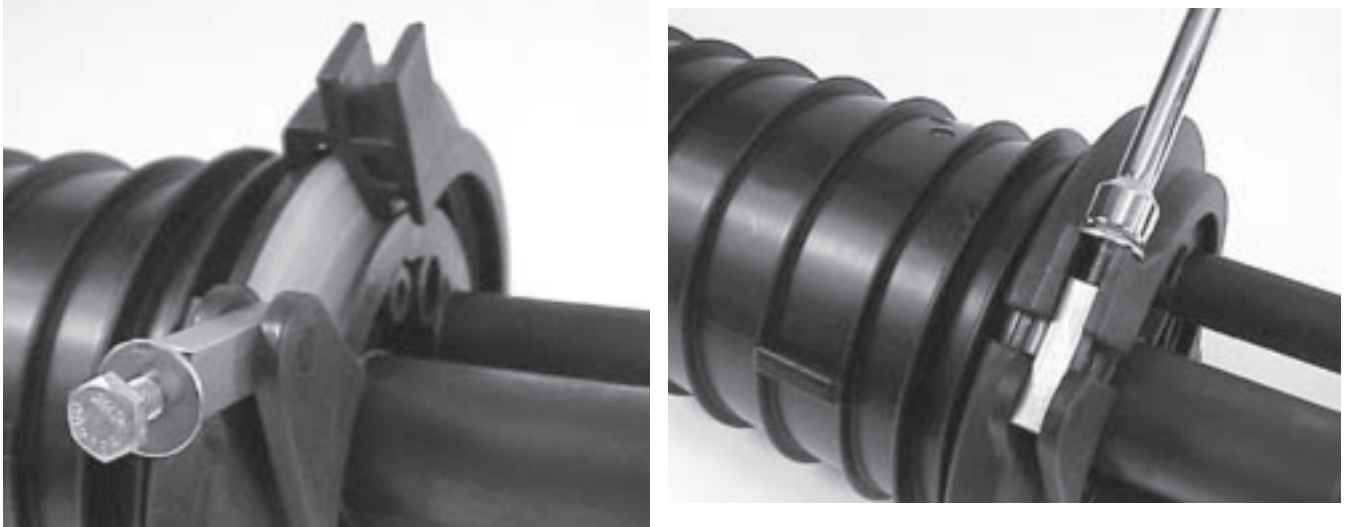

Figure 21
Step 4: Place the clamping ring over the flange of the canister and the sealing ring. Ensure that both the sealing ring and the canister flange are within the clamping ring (Figure 21).